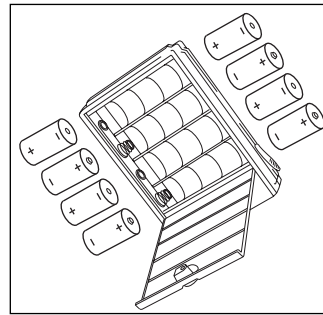

Fig. 3
3. Lift up lid and install 8 batteries in the correct orientation as shown on the battery compartment. Always be careful that batteries are installed correctly. (Fig. 3)